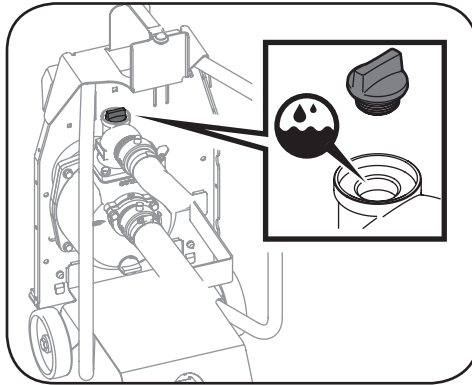

Figure 4-7
4. Before starting engine, remove the primer filler plug and completely fill the pump chamber with water. See Figure 4-7.